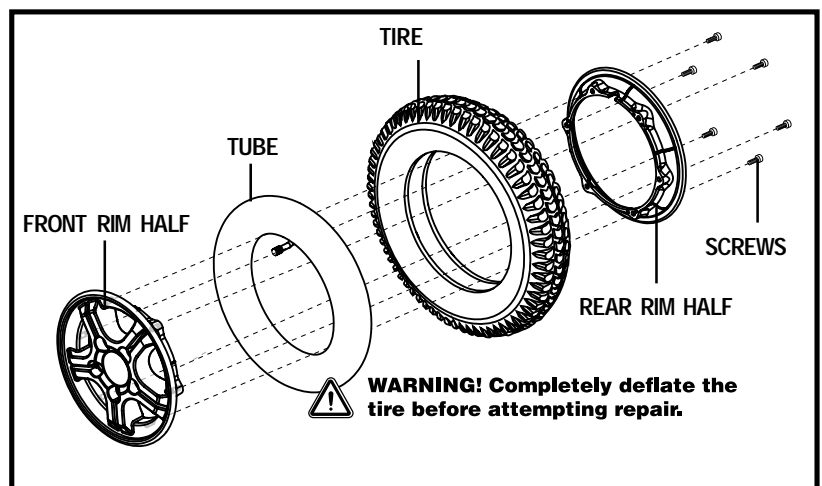

Figure 33. Quantum 6000 Drive Wheel Disassembled
6. Remove the screws and separate the front and rear rim. See figure 33.
10. Reinstall the five (5) lug nuts onto the wheel hub and tighten.